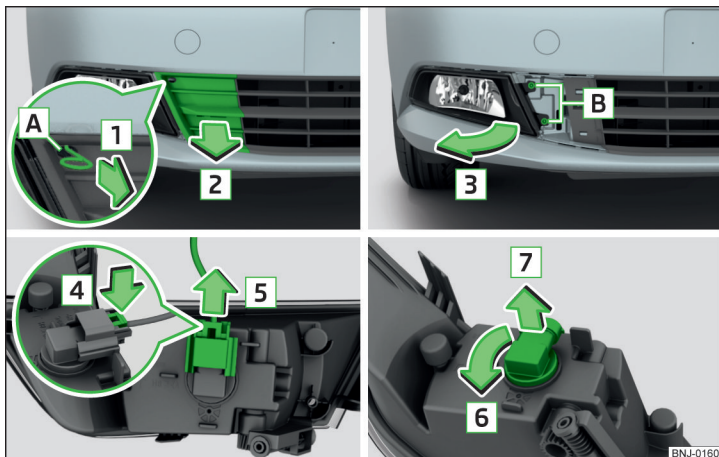

Fig. 305 Removing the number plate light / replacing the bulb
- › Insert the clamps for removing the full wheel trims into opening **A** » Fig. 305.
- › Replace the fog light by inserting it in the opposite direction of the arrow **3** » Fig. 305 and tighten.